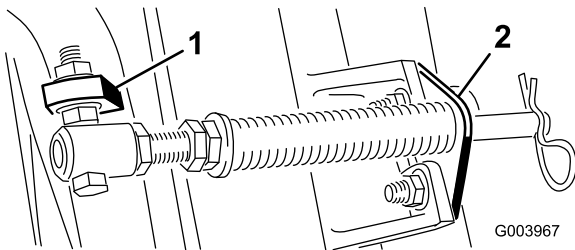

Figure 5
- C. Mount the spring tube bolt to the opposite tab on the carrier frame and secure with the flange nut. Position the bolt head to the outer side of the tab as shown in Figure 5.
D. Mount the rod bracket to the cutting unit tabs with the carriage bolts and nuts (Figure 5).